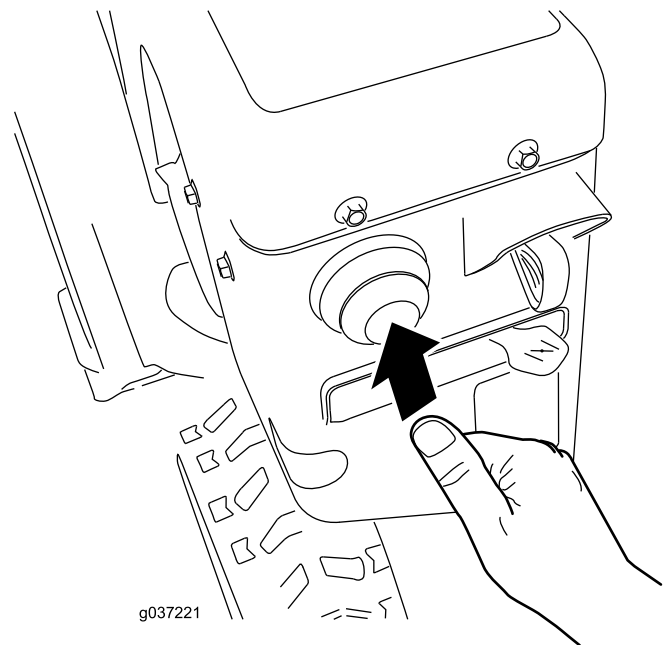

Figure 18
4. Firmly push in the primer with your thumb as indicated by the following table, holding the primer in for a second before releasing it each time (Figure 18).